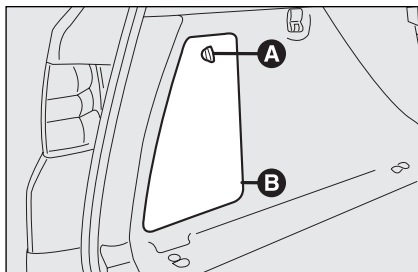

fig. 36
- turn the handle **A**-fig. 36 to open the door **B**;